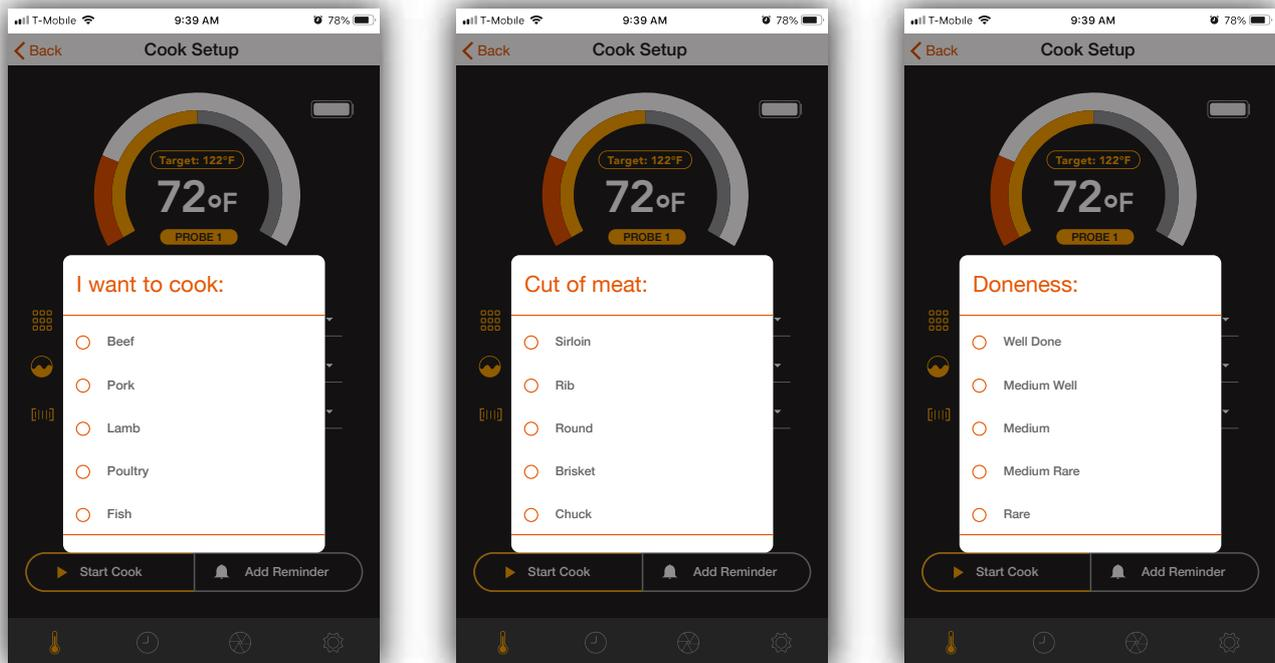

Figure 8. Displays of “Type of Meat”, “Cut of Meat” and “Doneness”
3. Choose the type of meat to cook by tapping “I want to cook” once and then selecting the meat type (see Figure 8).
4. Choose the cut of meat to cook by tapping “Cut of meat” once and then selecting the cut of meat (see Figure 8).
5. Choose the doneness by tapping “Doneness” once and then select the desirable doneness (see Figure 8).